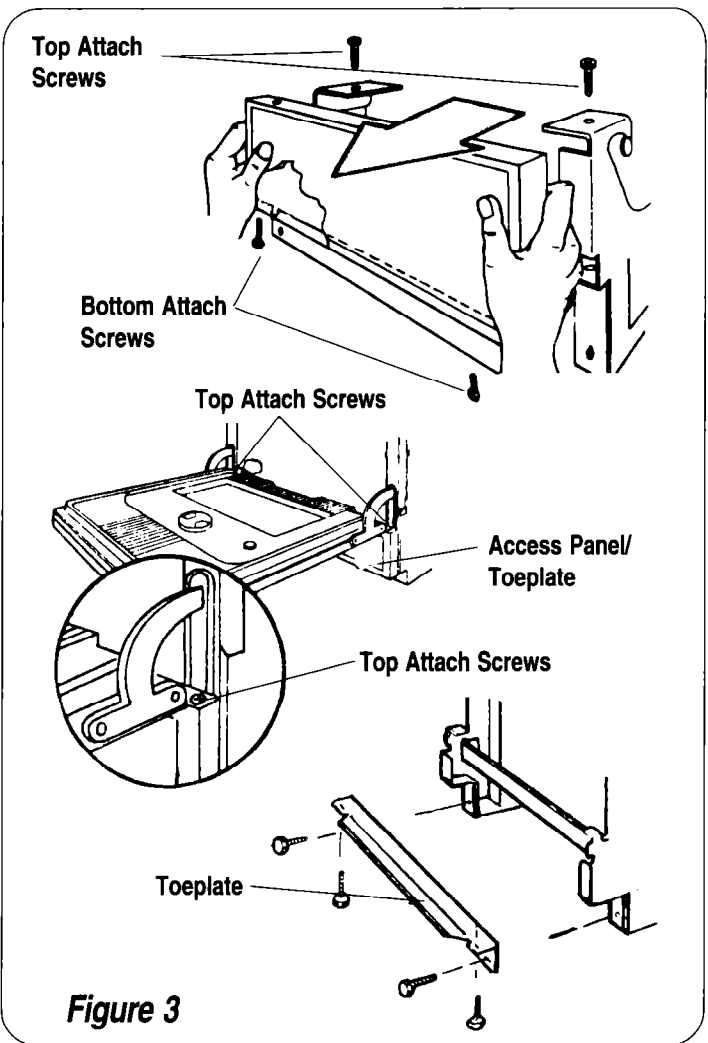

Figure 3
1. Remove the two bottom attach screws in the access panel/ toeplate (see Figure 3).
4. Remove four screws to remove the toeplate (see Figure 3).